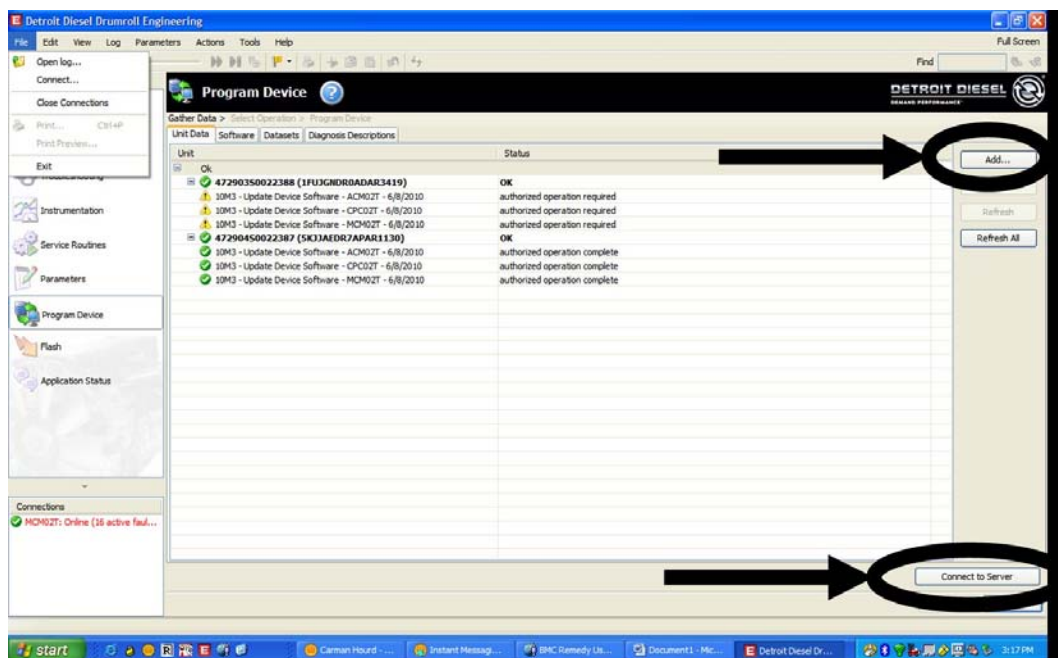

Figure 3 – Adding Engine Serial Number And Connecting To Server
9. Select the “Add” button in the upper right corner of the DiagnosticLink® screen and enter the engine serial number. Then click the “Connect to Server” button in the bottom right corner of the DiagnosticLink® screen. See Figure 3.